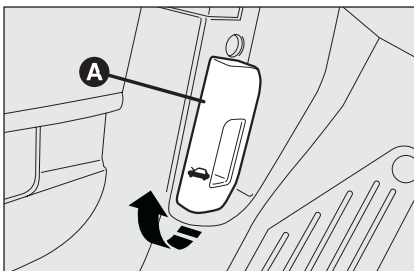

fig. 96
- pull lever **A**-fig. 96 in the direction of the arrow;